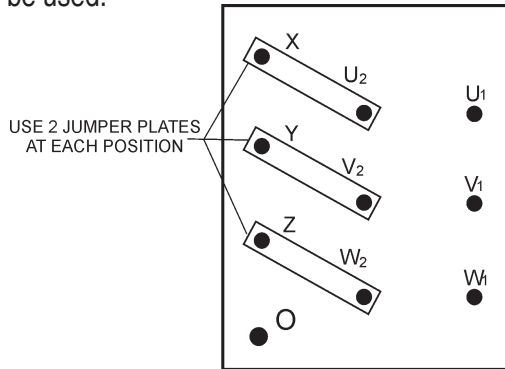

Figure 26. Voltage Change-Over Board 400V Configuration
1. Jumper the voltage change-over board for 480V operation as shown in Figure 26. This configuration uses 6 jumper plates in 3 different positions. Remember there are 2 jumper plates at every position. Every jumper plate **must** be used.
1. Make sure the voltage change-over board is jumpered for 480V operation as shown in Figure 26.
1. Make sure the voltage change-over board is jumpered for 400V operation as shown in Figure 26.